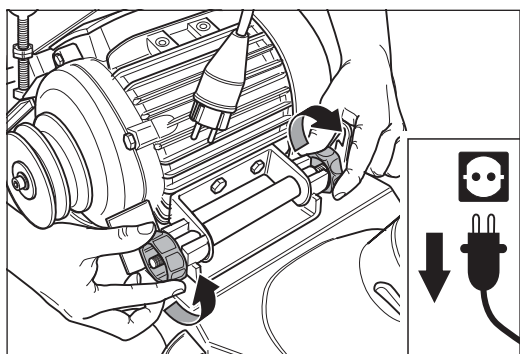

Fig. 23 Loosen the two motor nuts ...
- 5 Loosen the two motor nuts at the motor bearing bracket (Fig. 23).